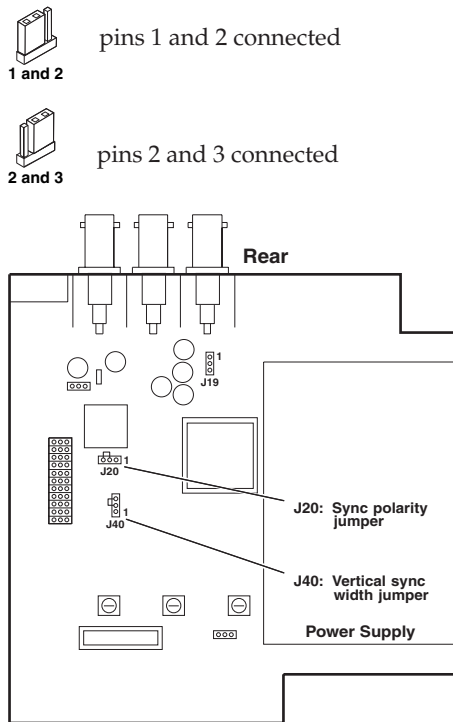

Figure 2-4 — Circuit board jumper locations
- Note the positions of jumpers J20 and J40 before changing jumper settings (figure 2-4). There are two possible setting combinations for 3-pin jumpers: